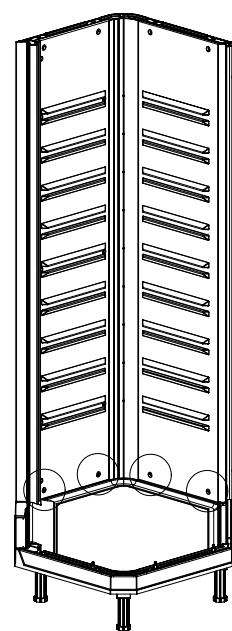

Fig. 8-3-1
2. Lift the sidewall element on the floor element and use the M6 Hex key (3-1) to lock the panel together as seen in the picture with yellow rings until the pulley lock does not move, and to seal the internal D type gasket (figure 8-3-1). We recommend starting with the lock near the door opening.